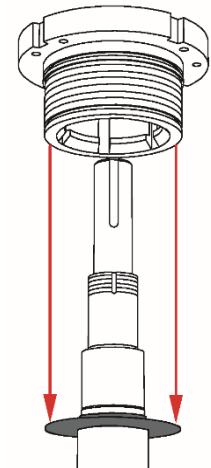

Figure 10-3: Bearing carrier
8. Place the bearing carrier (382A) over the shaft Figure 10-3.